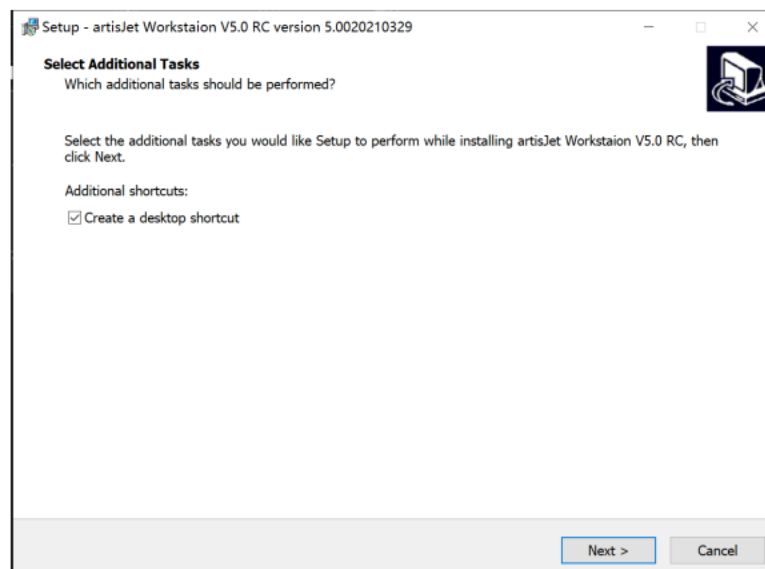
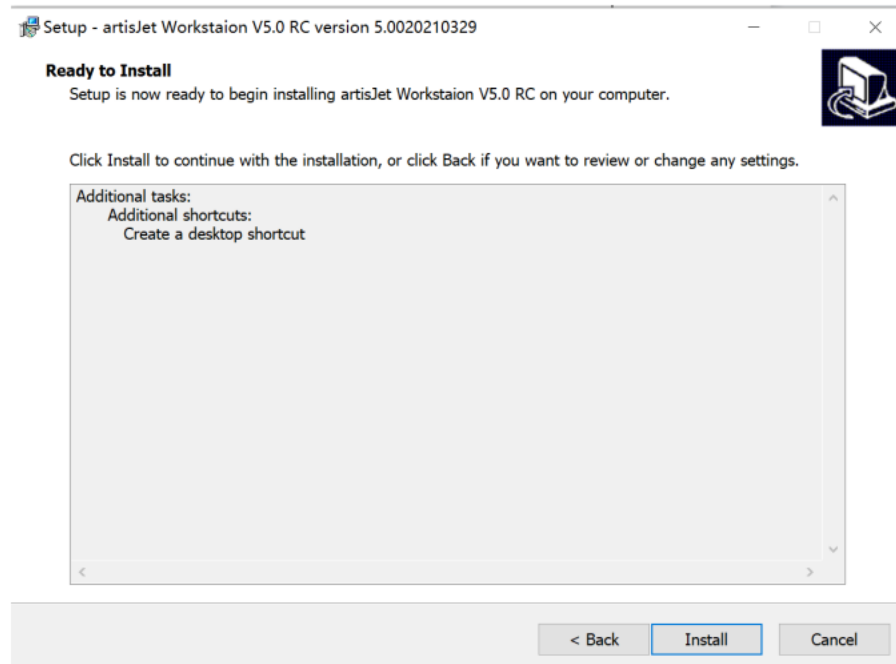

Fig. 16 – Installation wizard window
Fig.17 – Initialize installation process
Step 2 - The installation wizard will pop up (**Fig. 16**). Please click “**Next**” to continue the installation steps and procedures (**Fig. 17**).
Step 3 - Click the “Install” button to initialize the installation process (Fig. 17).